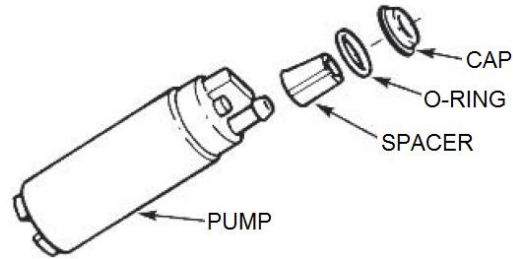

Figure 5
- B. For some vehicles, the pump outlet is sealed with an O-ring inside a tube welded to the pump bracket. Pull the pump out of the tube. Remove the cap, O-ring, and spacer from the pump (Fig. 5). **Keep the spacer.** Place the spacer on the outlet fitting of the new pump. Then place the new O-ring and cap from the installation kit. Slide the pump outlet into the bracket tube. Using the new or existing fuel pump isolator, slide the pump and isolator assembly into the bracket and securely tighten the screw that attaches the L-shaped bracket to the pump bracket, or fit the isolator tabs into the matching openings on the pump bracket.